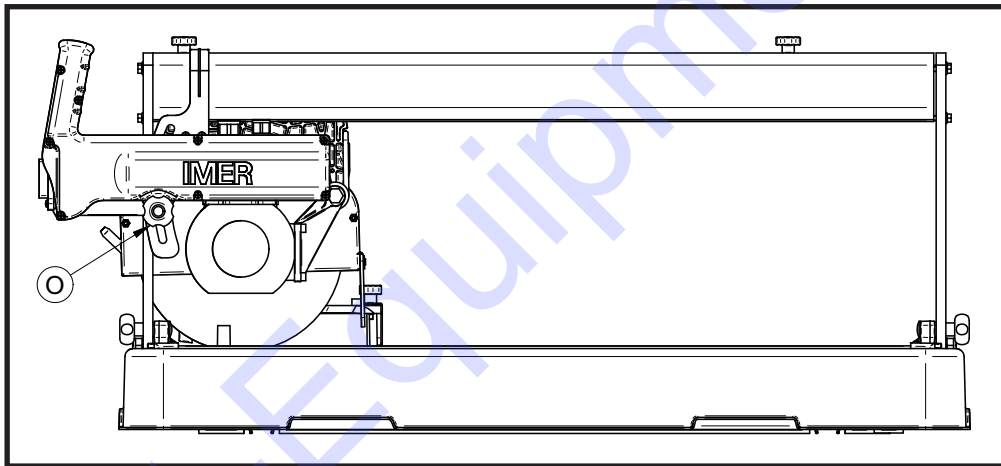

**FIG. 1**
The Combi 250 VA saw weighs 33 Kg and can be moved by means of the side handles on the tank (ref.I, fig.1).
Open the valve (ref.N, fig.1) and ensure sufficient flow of cooling water to the diamond blade.
At regular intervals (or when the flow rate of the blade cooling water is reduced) clean the cooling water supply circuit. To do this, disassemble the delivery nozzle (ref.P, fig.1) located inside the blade guard and clean in water.
1. Block axial movement of the cutting head by means of the handwheels (ref.L, fig.1).
2. Disassemble the front guard (ref.P, fig.1).